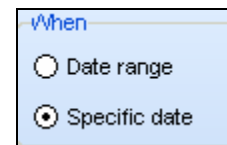

Figure 20.0.7
4. Next in the "When" section choose a period of time that you want the Alert data from (Figure 20.0.7).